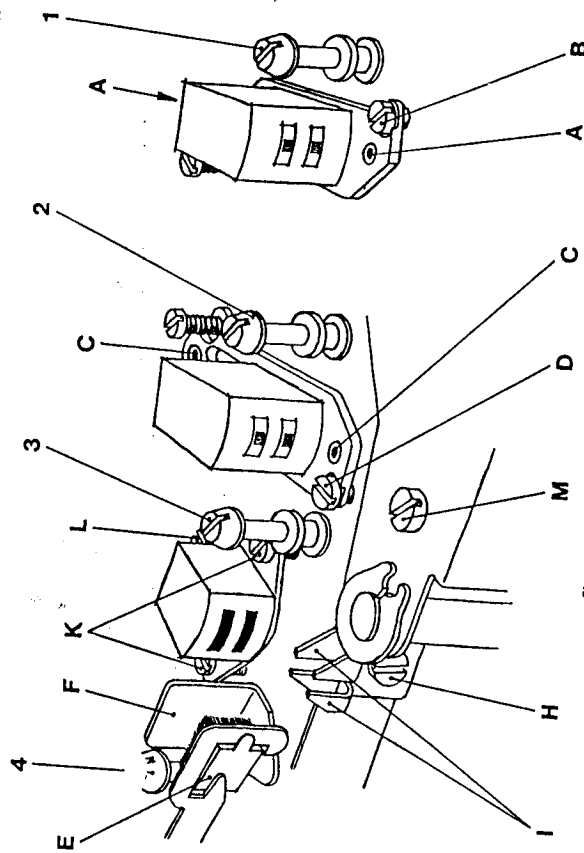
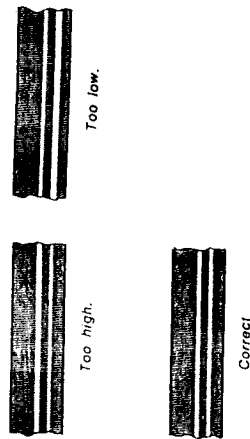

Fig. 4.1. Tape path adjustment screws.
Fig. 7.2. Track measurement of erase head.
Set the tape recorder in stereo record mode, and unscrew the locking screw (H) fig. 4.1, about 1/2 turn. Connect a VTVM across each one of the record head halves. Move the bias head up or down by means of adjustment screw (M) for the highest possible reading on the voltmeter. Check that the tape runs freely in the groove in front of the bias head and that there is sufficient clearance between the bias head and the mounting plate for the record head. The height position of the bias head is not critical, and if the clearance between the bias head and the mounting plate for the record head is insufficient, raise the bias head slightly.
Connect a VTVM across each one of the record head-halves, and set the tape recorder for stereo recording. Insert a screwdriver in groove I, ref. fig. 4.1, and pull the bias head to the right. Then pull the bias head carefully by means of the screwdriver towards the left hand side. Induced voltage (bias) in recording head increases to a maximum. Continue pulling the head towards left side until the bias is reduced by 10-15% below maximum. When the position has been found, tighten the screw (H) while maintaining correct horizontal position of the head. Then recheck the output voltage. If a noticeable change has occurred, the horizontal procedure has to be repeated.
By visual inspection, check that approx. 0.25 mm (10 mils) of the upper half of the erase head is visible above the tape. Insert Tandberg test tape No. 9 and record a 400 Hz signal at 7 1/2 ips well above normal level on channel R (track 3). Dip the tape in a solution of fine grained iron oxide powder and alcohol (Magna See solution). Check that the recorded track is positioned in centre of the erased track. Make sure that no parts of the adjacent tracks are erased, see fig. 7.2. If necessary, adjust the height of the erase head by means of the screws (K) and (L) ref. fig. 4.1, and repeat the above check.
Check that the head front of the erase head is perpendicular to the mounting plate. If necessary, adjust azimuth position by means of the screws (K) ref. fig. 4.1. This adjustment is not critical.
Insert a new tape, and start the recorder in normal forward drive. Check visually that the tape appears to run parallel with the upper track of the record head, with a play of approx. 0.1 mm (4 mils). If necessary, adjust the height with screws (C) fig. 4.1, while endeavouring to maintain the headfront parallel to the tape.
The height of the playback head is aligned by the height adjustment screws (A), ref. fig. 4.1. The upper edge of the tape shall run flush with the upper part of the head lamination for channel L.
Set OUTPUT selector to position STEREO. Play back a standard azimuth alignment tape with a VTVM connected to each output. Adjust the position of the playback head by the azimuth adjustment screw (B) ref. fig. 4.1, until maximum reading is obtained on the output meters.
The height of the erase head is aligned by the height adjustment screws (K and L) ref. fig. 4.1. Approx. 0.25 mm (10 mils) of the ferrite core for the upper track of the erase head should be visible above the tape.
Insert a full-track prerecorded tape and record a 1,000 Hz signal from a generator, well above optimum recording level in mono on track 3 (channel R). Cut the tape and dip it into the Magna See solution. Check that the prerecorded track is in the centre of the erased area, ref. fig. 7.2. Adjust the vertical position of the erase head if necessary.
The height of the erase head is aligned by the adjustment screws (K and L) ref. fig. 4.1. Record a 1,000 Hz signal in stereo well above optimum recording level on a full-track prerecorded tape. Dip the tape in the Magna See solution and check that the tracks are distributed symmetrically across the tape. Readjust the erase and the record heads, if necessary.